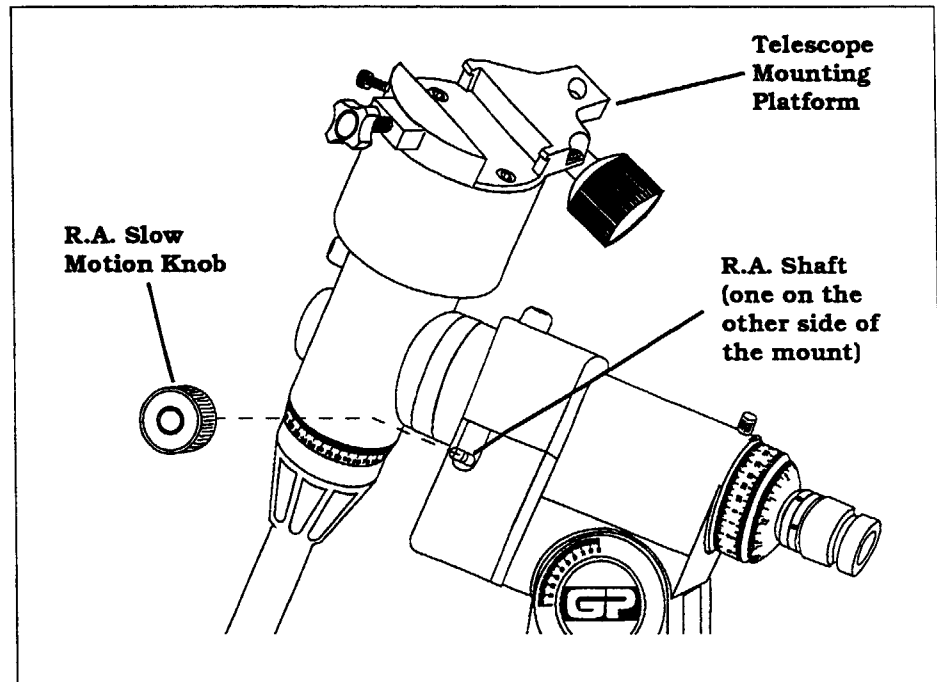

Figure 2-5
3. Line up the flat area on the inner portion of the R.A. slow motion knob with the flat area on the R.A. shaft (see figure 2-5).